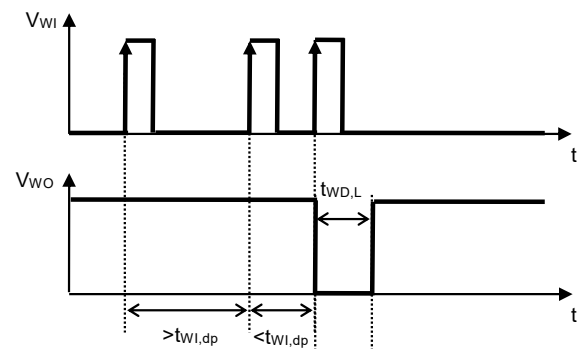

Figure 11 Watchdog Double-pulse Detection Time
*3. The time from when the watchdog timer initiates the detection of a trigger signal to when a trigger is detected again before $t_{WI,dp}$ elapses and the WO pin output changes to "L" (Refer to **Figure 11**). This value changes according to C_{DLY} .